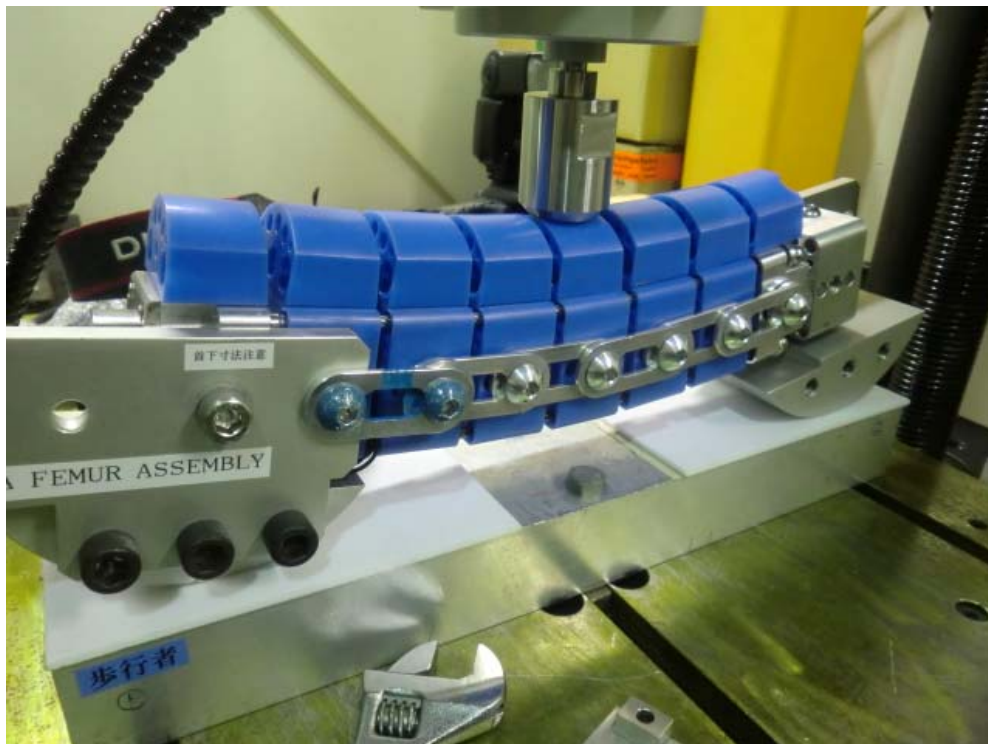

Figure 74 . Bone Assembly Fixture (femur shown under bending)
Assemble the bone to the 133-8120 fixture; see drawing Figure 69 & 70 for details. Place the assembled fixture over the Teflon sheets see Figure 74. Do not tighten the two cap head screws item 7 in figure 69 at the end segments of the assembly to allow free rotation.